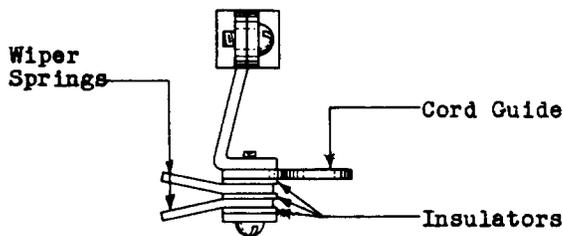

Fig. 8 - Earlier Type Wiper Assembly Having Thin Insulators Modified to Use Later Type Wiper Springs Having Wiper Terminals as Part of the Wiper Springs
3.46 If the wiper assembly still cannot be aligned properly with the bank level, it may be due partly to difference in thickness of the insulators on the old and new wiper assemblies. If the old wiper assembly has insulators 1/32 inch thick better alignment may be obtained by putting new springs on the old bracket using the old insulators. To do this loosen the assembly clamping screws on both the old and new wiper assemblies. Discard the separate terminals, the washer under the screw head and the old wiper springs and mount the new wiper springs in position, as shown in Fig. 8. In assembling the parts mount the cord guide under the mounting screw nearest the tip of the springs and between the assembly bracket and the first insulator. Tighten the spring assembly clamping screws securely. Mount the wiper assembly on the switch, align the wipers with the bank level and bank contacts and tighten the assembly mounting screws. Solder the wiper cords to the wiper assembly.